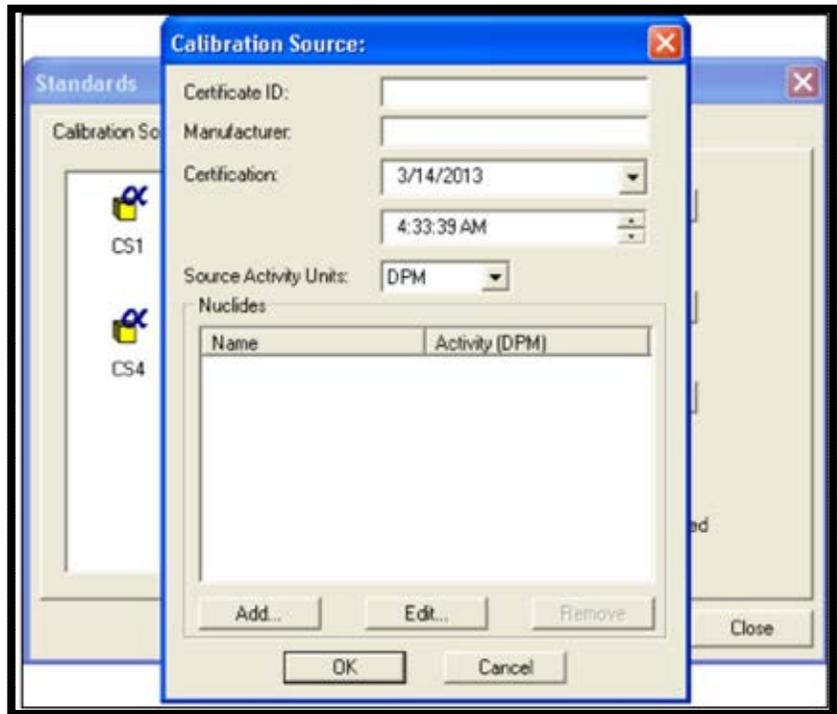

Figure 67. Add Calibration Source
- 3) Click the Calibration Sources tab, then click **Add** to open the Calibration source dialog (Figure 67).